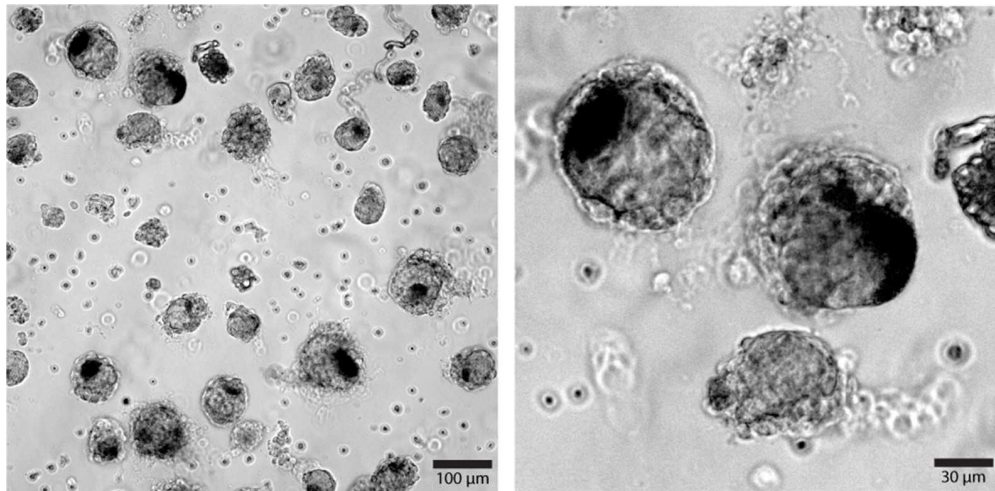

Fig 4.
- 24 Incubate human DRG cells at 37°C, 5% CO₂ for the duration of the experiment (Fig 4)